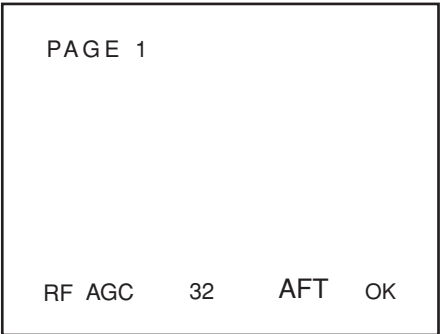

Fig. 1-6
2. Using the volume keys on the jig remote controller to adjust the test point voltage value to  $4.0 \pm 0.5\text{VDC}$ . Then check if the status of AFT on the Adjustment Menu Screen is displayed “OK” as shown in Fig. 1-6.